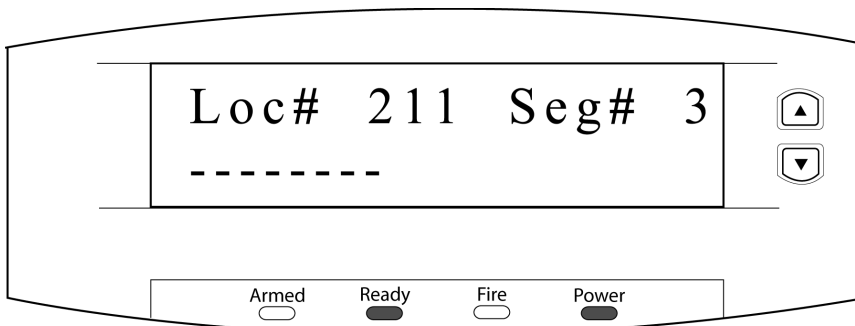

Figure 13: Alarm Panel - Location 211, Segment 3
6. Select the ***** key to save the selection and move to the next segment. For Location 211, Segment 3, all numbered options must be toggled to the OFF position. Once completed, the LCD will look similar to Figure 13.